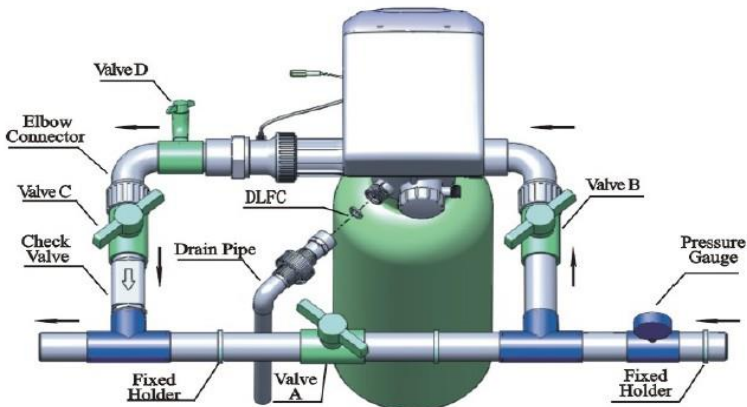

Figure1-3
③ Pipeline connection
- a. Install a pressure gauge in water inlet as figure 1-3.